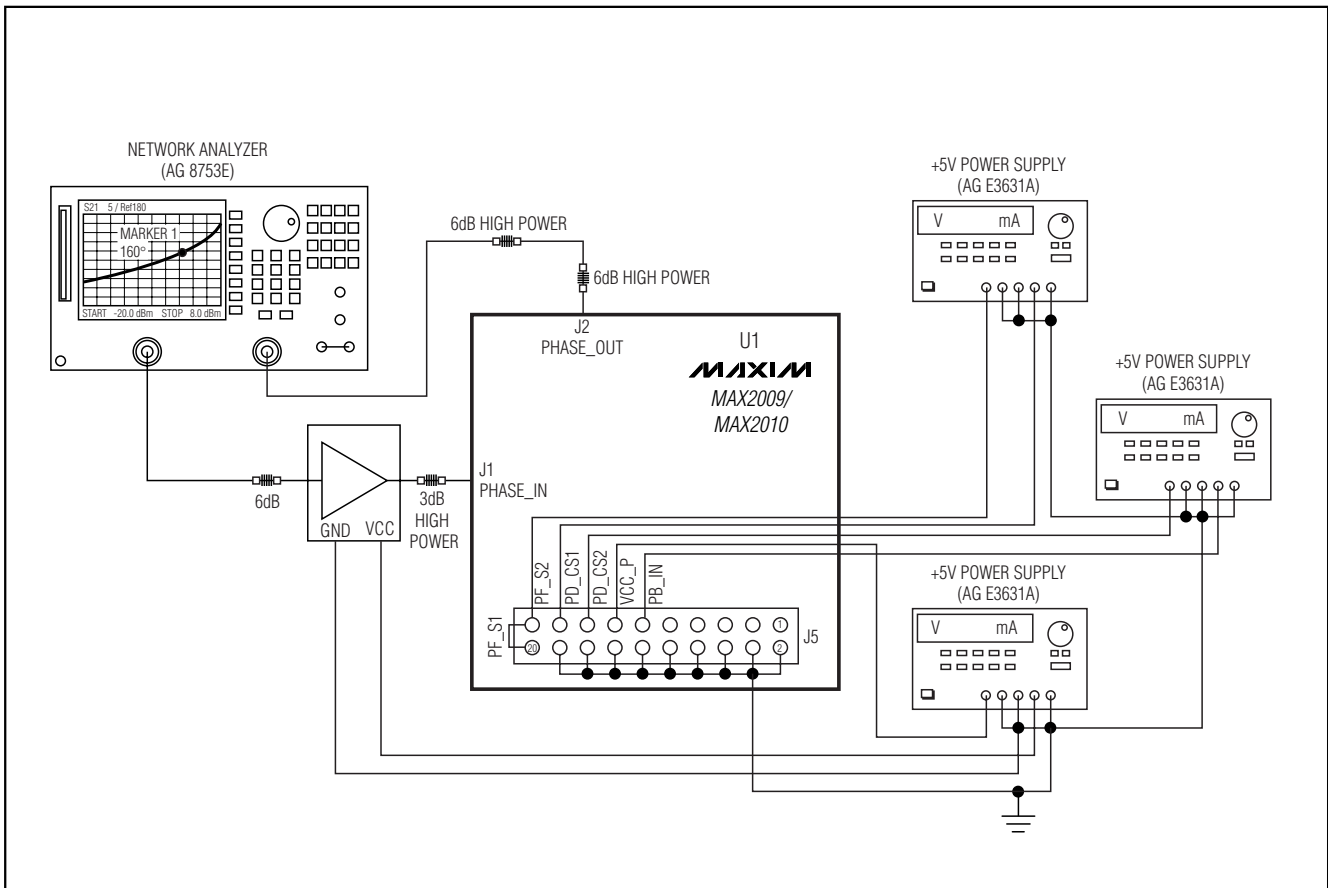

Figure 1. Testing the Phase Section
- 1) Set up the test equipment per Figure 1 with the network analyzer output power disabled.
Testing the Phase Section—Figure 1